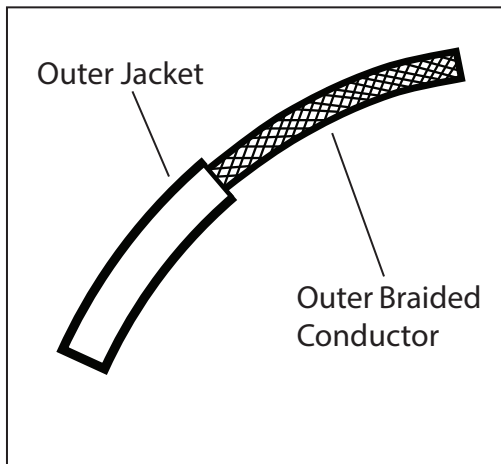

Fig. 1
1. Shut off power to the outlet box (A).
2. Determine the height at which the fixture is to be hung. Insert the steel cable (B) through the lock (C) and adjust to the desired length. To shorten the cable, push the cable (B) up and it will be locked automatically. To lengthen the cable, lift up on the cable and push up on the lock (C). While keeping the lock depressed, lower the cable to the desired length. Release the lock to set. Slide cord rings (D) as close to canopy (E) and fixture (F) as possible. (Figure 1)
3. Use the screwdriver to loosen the slotted set screw (G). Adjust height of cord. Tighten the set screw to set. Reserve extra cord in the canopy (E).
- a. Connect the LED driver's (H) live wire (black) to the live outlet box wire.
- b. Connect the LED driver's (H) neutral wire (white) to the neutral outlet box wire.
- c. Connect the canopy's ground wire (green or uncoated) to the ground outlet box wire. If no ground is present in outlet box, connect canopy's ground wire to the mounting plate (J) using the green screw (included).
5. Attach the mounting plate (J) to the outlet box (A), secure with outlet box screw (K).
6. Attach canopy (E) to the mounting plate (J), secure with screws (L).
7. Attach glass (M) to fixture (F). Secure with set screw (N).
(Figure 1)
1. Make a 1" slice along the length of the cord's outer jacket (Fig. 1). **CAUTION: Do not cut through the outer braided conductor.**
2. Carefully strip the outer jacket of the cord and keep the outer braided conductors intact (Fig. 1).